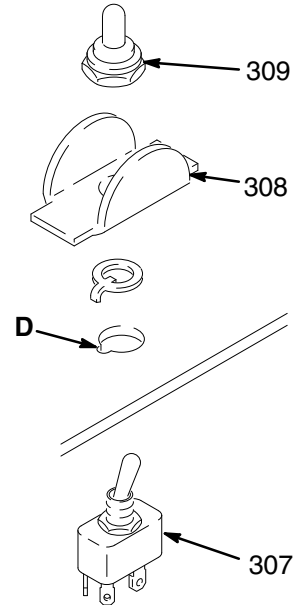

Fig. 16
# On/Off Switch Replacement (Fig. 16)
4. Using a 5/8 in. socket wrench, remove the nut and rubber boot (309). Remove the switch guard (308). See Fig. 16.
5. Remove the ON/OFF switch (307).
6. Install the new switch so the internal tab of the pressure control housing (D) engages with the vertical groove in the threads of the switch.
7. Install the switch guard (308), aligning the internal tab with the groove in the threads.
8. Powder the inside of the rubber boot (309) with talcum powder, then shake the excess out of the boot.